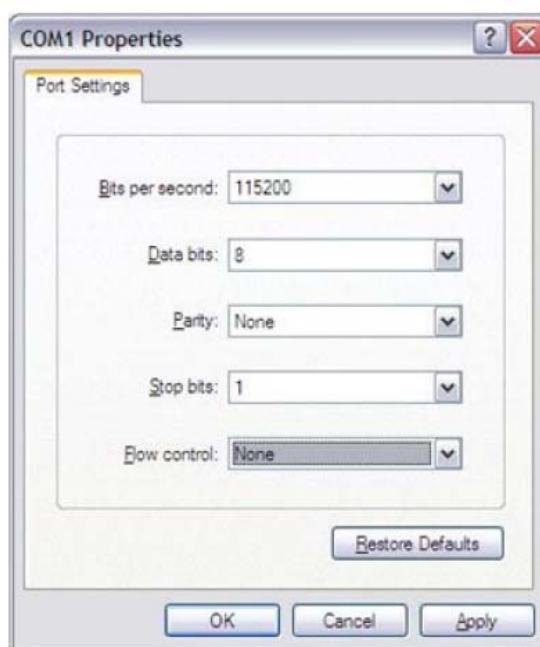

Figure 2.25 Hyper Terminal Settings for Terminal Setup
2. Open Hyper Terminal on your Windows PC, and select the settings as shown in Figure 2.25.